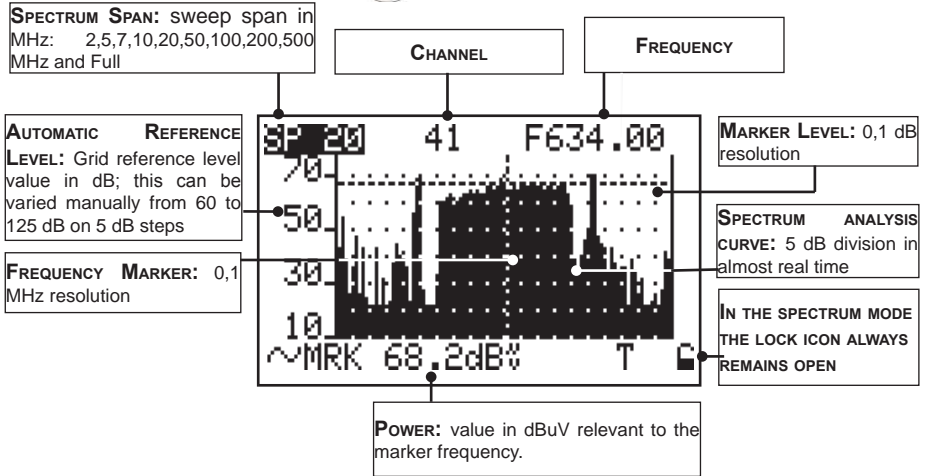

Fig. 6.1 COFDM MUXLTIPLEX spectrum with 20 MHz SPAN.
- Use the ENCODER to select the spectrum variable fields (see Fig. 6.1): SPAN, channel or programme number, frequency and reference level. The chosen field is highlighted with a dark background,